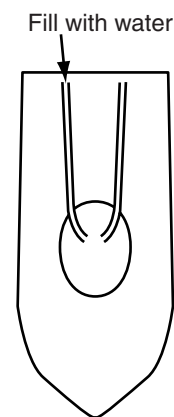

Figure 1.
2. Use the small pipet to fill one of the pipes in the rear of the boat with water until water comes out the other side (this indicates that the pipes and water tank are filled, see Figure 1).